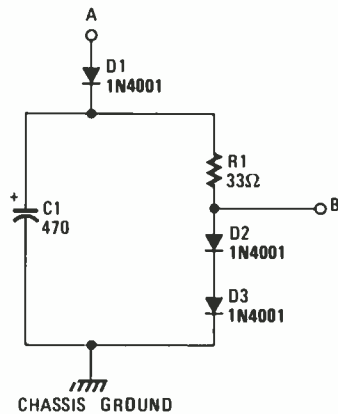
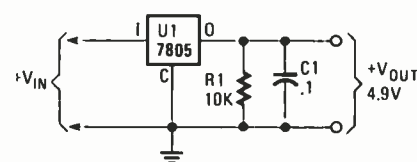

Fig. 5—Originally designed as a battery replacement in a VTVM, the Battery Substitute can be fed from an ordinary 6.3-volt filament transformer.
Fig. 8—This circuit, built around the 7805 5-volt regulator, can power low-current (1 amp or less) 5-volt circuits, such as TTL or CMOS based projects.
David R. Bell, of Reisterstown, MD sends us a brief letter, with a brief explanation, and a brief diagram. (See Fig. 5.) Well, they say that Sampson was a piker—he slew a thousand men with the jawbone of an ass, and that millions of sales are killed each day with the same weapon!
Fig. 8—This circuit provides a combination of pulse and DC power as shown graphically in Fig. 5. The main-pulse output is used to provide a full-voltage pulse while the average-pulse output is used to provide the DC component.
4. The circuit shown in Fig. 8 provides a combination of pulse and DC power (See Fig. 5). The main-pulse output is used to provide a full-voltage pulse while the average-pulse output is used to provide the DC component. The two signal diodes in this circuit cause the output to be the higher of the two signals, so the main-pulse output always provides the full "on" part of the pulse while the average output provides the low (or "off") part of the signal. This signal may reduce the heating of some motors.
what makes this his favorite, is that it is also his first effort at independent circuit design. (See Fig. 8.) He's using a 7805 voltage regulator and Dave admits to one flaw, in that the problem is that 9-volt transistor radio batteries usually don't last very long. However, this unit allows one to transport a TTL circuit away from the workbench and it also can serve as a temporary 5-volt power supply until you get around to building something a little more suitable.